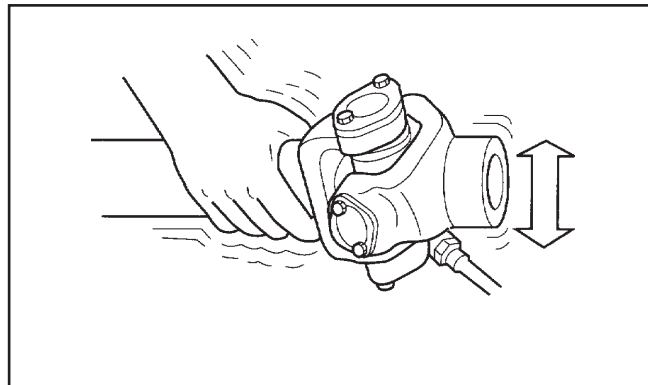

Figure 5 - Cross Assembly
- a. Move the assembly up and down or side-to-side while you apply grease gun pressure (see Figure 5).